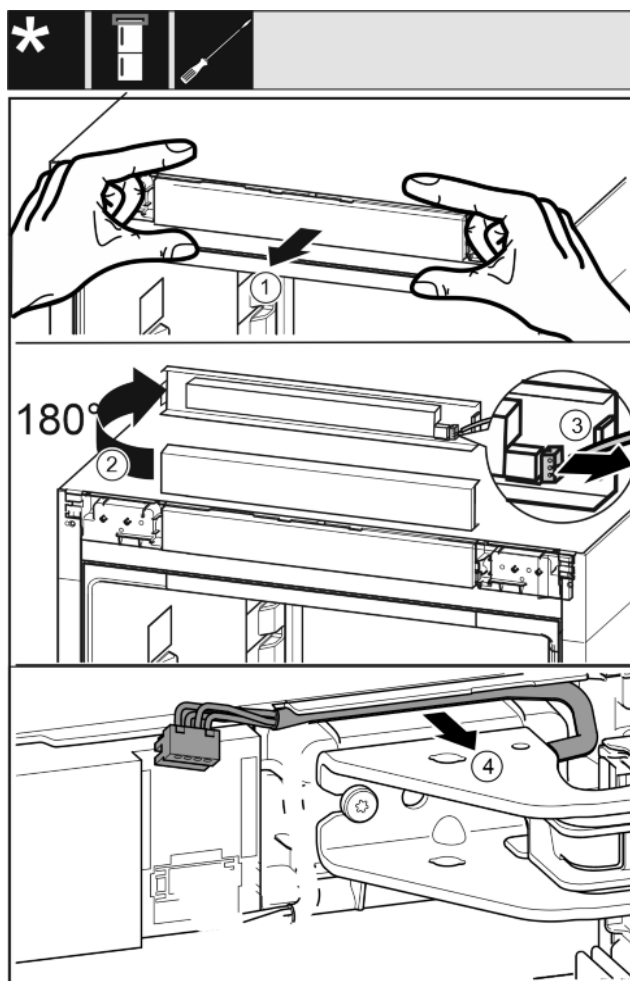

Fig. 15
- Pull out the control panel of the appliance to the front carefully. Fig. 15 (1)
- Turn the control panel upwards by 180°. Fig. 15 (2)
- Push the latching lug back and pull out the plug carefully. Fig. 15 (3)
- Carefully pull out the cable over the bearing bracket out of the guide. Fig. 15 (4)